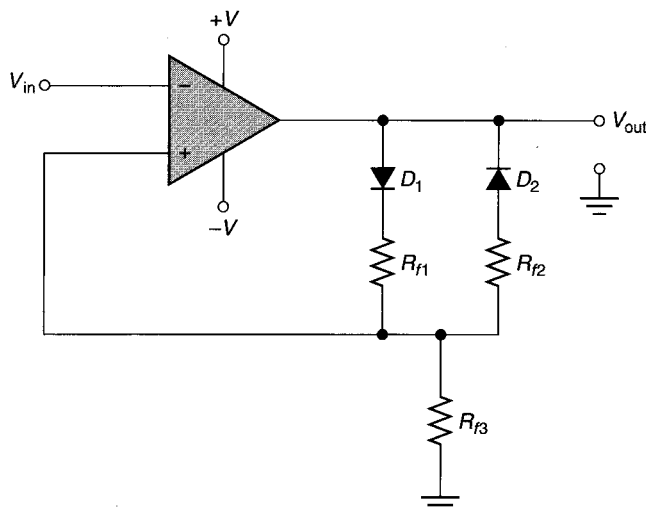

FIGURE 19.30 An inverting Schmitt trigger designed for unequal (asymmetrical) UTP and LTP values.
The inverting Schmitt trigger can be modified as shown in Figure 19.30 to allow different UTP and LTP values. In this circuit, the UTP is determined by  $D_1$ ,  $R_{f1}$ , and  $R_{f3}$ . The LTP is determined by  $D_2$ ,  $R_{f2}$ , and  $R_{f3}$ . For example, when the op-amp output is *positive*,  $D_1$  is forward biased, and the UTP voltage is found as
8. Explain the operation of the inverting Schmitt trigger in Figure 19.30.